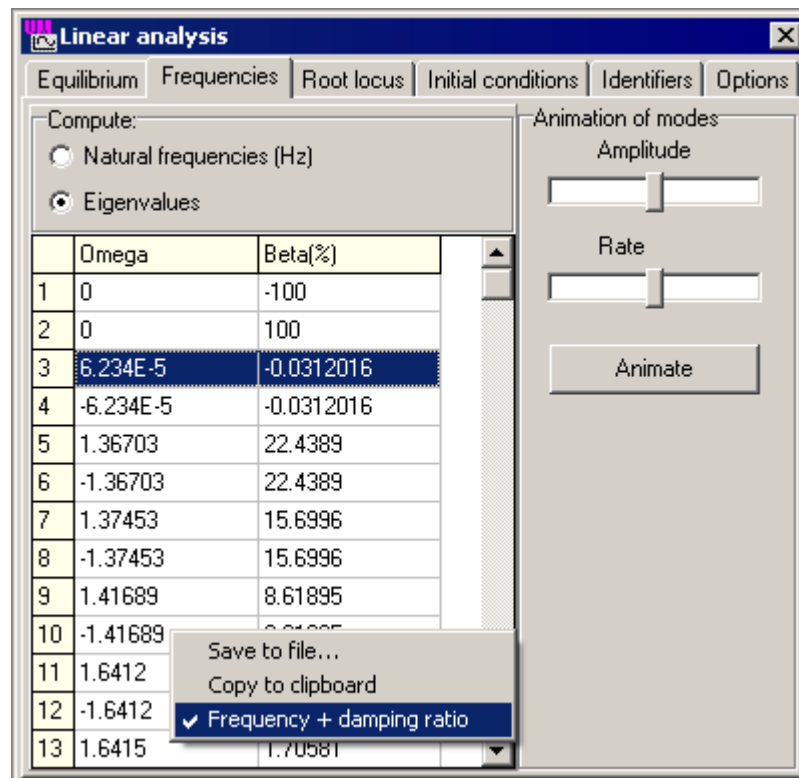

Figure 1.11. Frequency and damping ratio
6. Click the right mouse button on the list of eigenvalues and select the **Frequency + damping ratio**. After that in the list of frequencies we can see frequency and damping ratio for each mode, see Fig. 1.11.